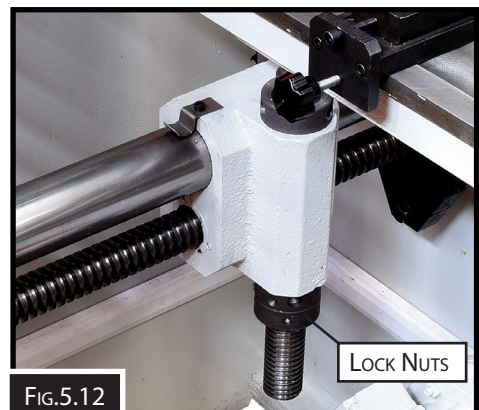

FIG.5.12
4. If the fingers need to be raised or lowered then release the lock nuts (Fig.5.12) and adjust the height of the fingers accordingly, making sure that both ends are adjusted so that the back gauge remains parallel.